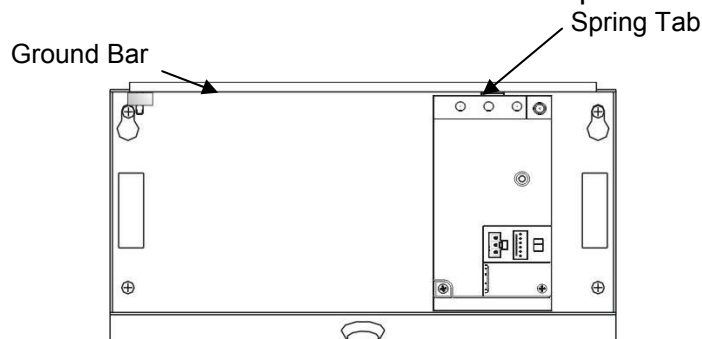

Figure 2
- The Antenna (Figure 2) can be tightened down to the Antenna Base (Figure 3).